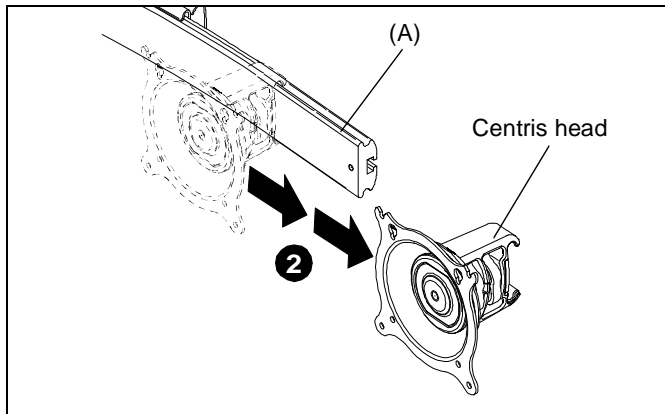

Figure 5
2. Remove Centris head from array rail. (See Figure 5)